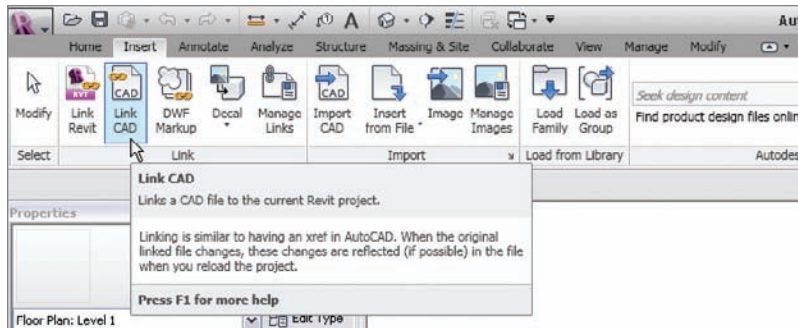

FIGURE 20.21 The Link CAD button on the Link panel of the Insert tab
9. On the Link panel of the Insert tab, click the Link CAD button, as shown in Figure 20.21.